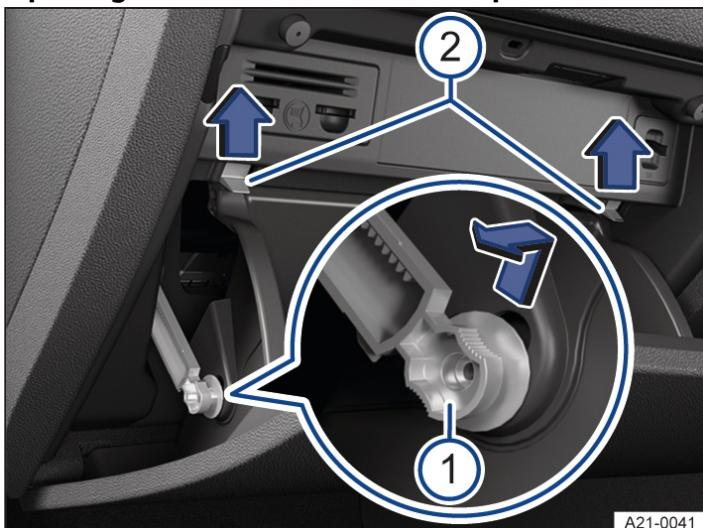

Fig. 2 In the dash panel on the front passenger side: fuse box cover in the dash panel (right-hand drive vehicle)
2. Push restrictor upwards into the opening of the holder and pull out to the side → *Fig. 2* 1.
3. Push catches upwards in the direction of the arrow at the same time open the stowage compartment further → *Fig. 2* 2.
3. Carefully push the stowage compartment forwards beyond the resistance of the catches → *Fig. 2* ².